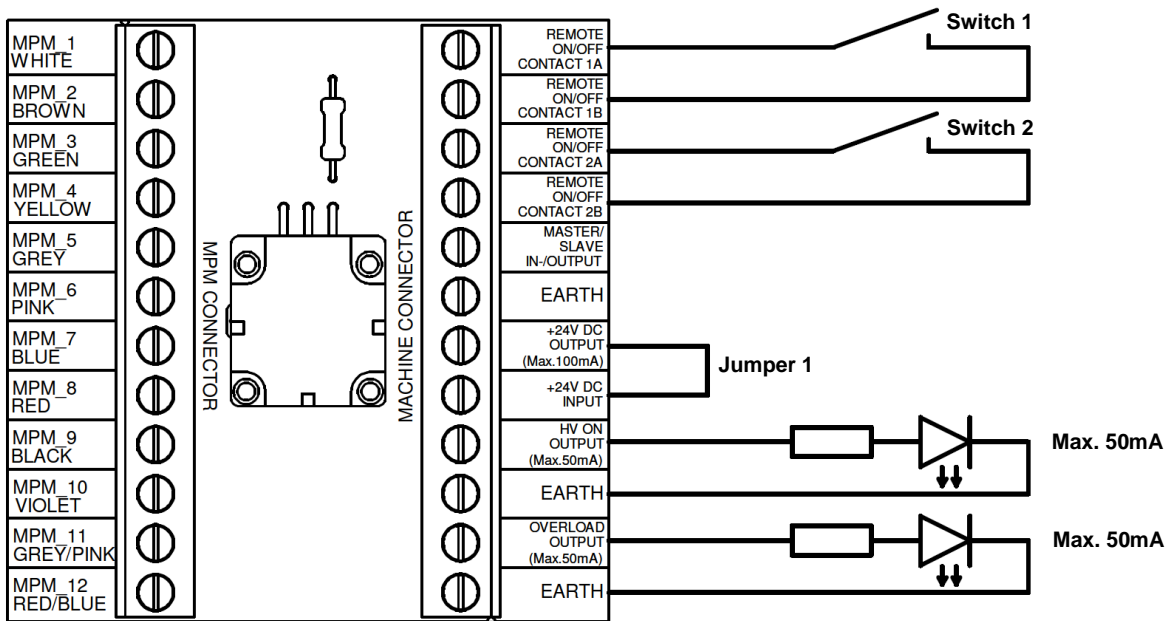

Figure 5, wiring diagram External Balance Control Kit with internal 24 V power supply
- Connect the 12-pin cable of the MPM to the MPM-connector of the Balance Control Kit. See figures 5 and 6.
- For use with the internal 24 V power supply of the MPM: Connect the Balance Control Kit as shown in figure 5.